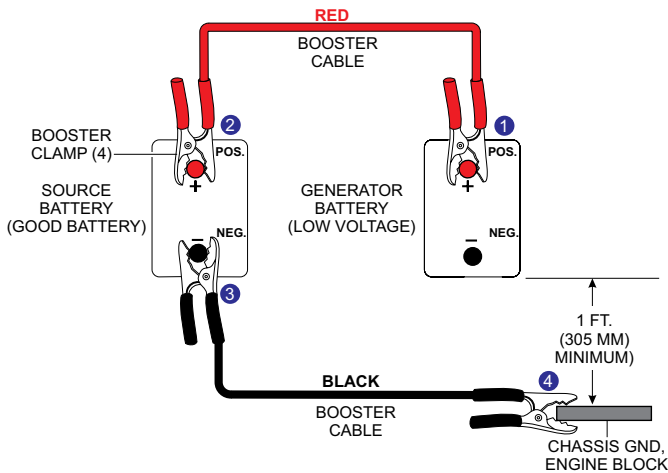

Figure 73. Connecting Booster Cables
1. Connect one end of the booster cable with the **RED** clamp (Figure 73) to the positive terminal on the generator's battery.